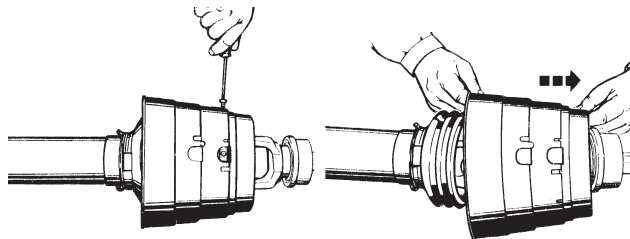
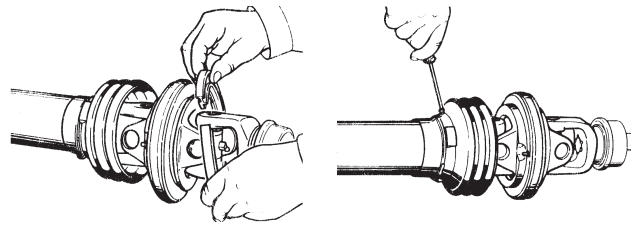
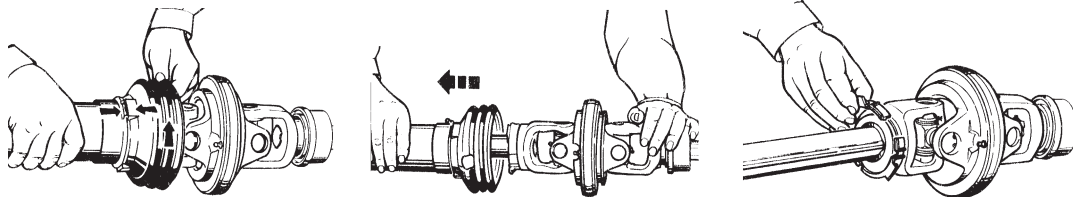

FIGURE 7
FIGURE 8
FIGURE 9
1. To remove the outer CV cone, remove the locking screws from shield cone. Remove cone over yoke. **FIGURE 7.** Remove bearing ring and remove the locking screws from inner shield cone. **Figure 8.** Turn inner cone to assembly position and remove half shield. Remove bearing ring. **FIGURE 9.**